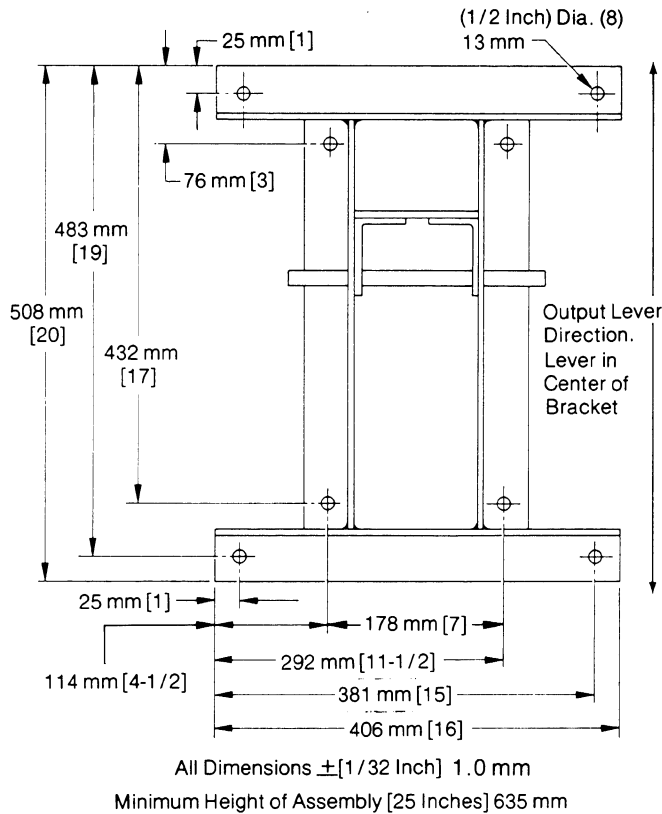

Figure 1. Floor Mounting Bracket Bolt Hole Dimensions
To facilitate shipping and storage, these actuators are shipped bolted to a wooden pallet. Remove pallet before installation. The actuator mounting bracket is provided with (8) 13 mm ($\frac{1}{2}$ " dia. mounting holes dimensioned as shown in Fig. 1. Before securing mounting bracket to the floor, determine the most efficient actuator location as follows:
1. Torque; or force at driven lever length (R).
2. Angular rotation; or stroke at lever length (R).